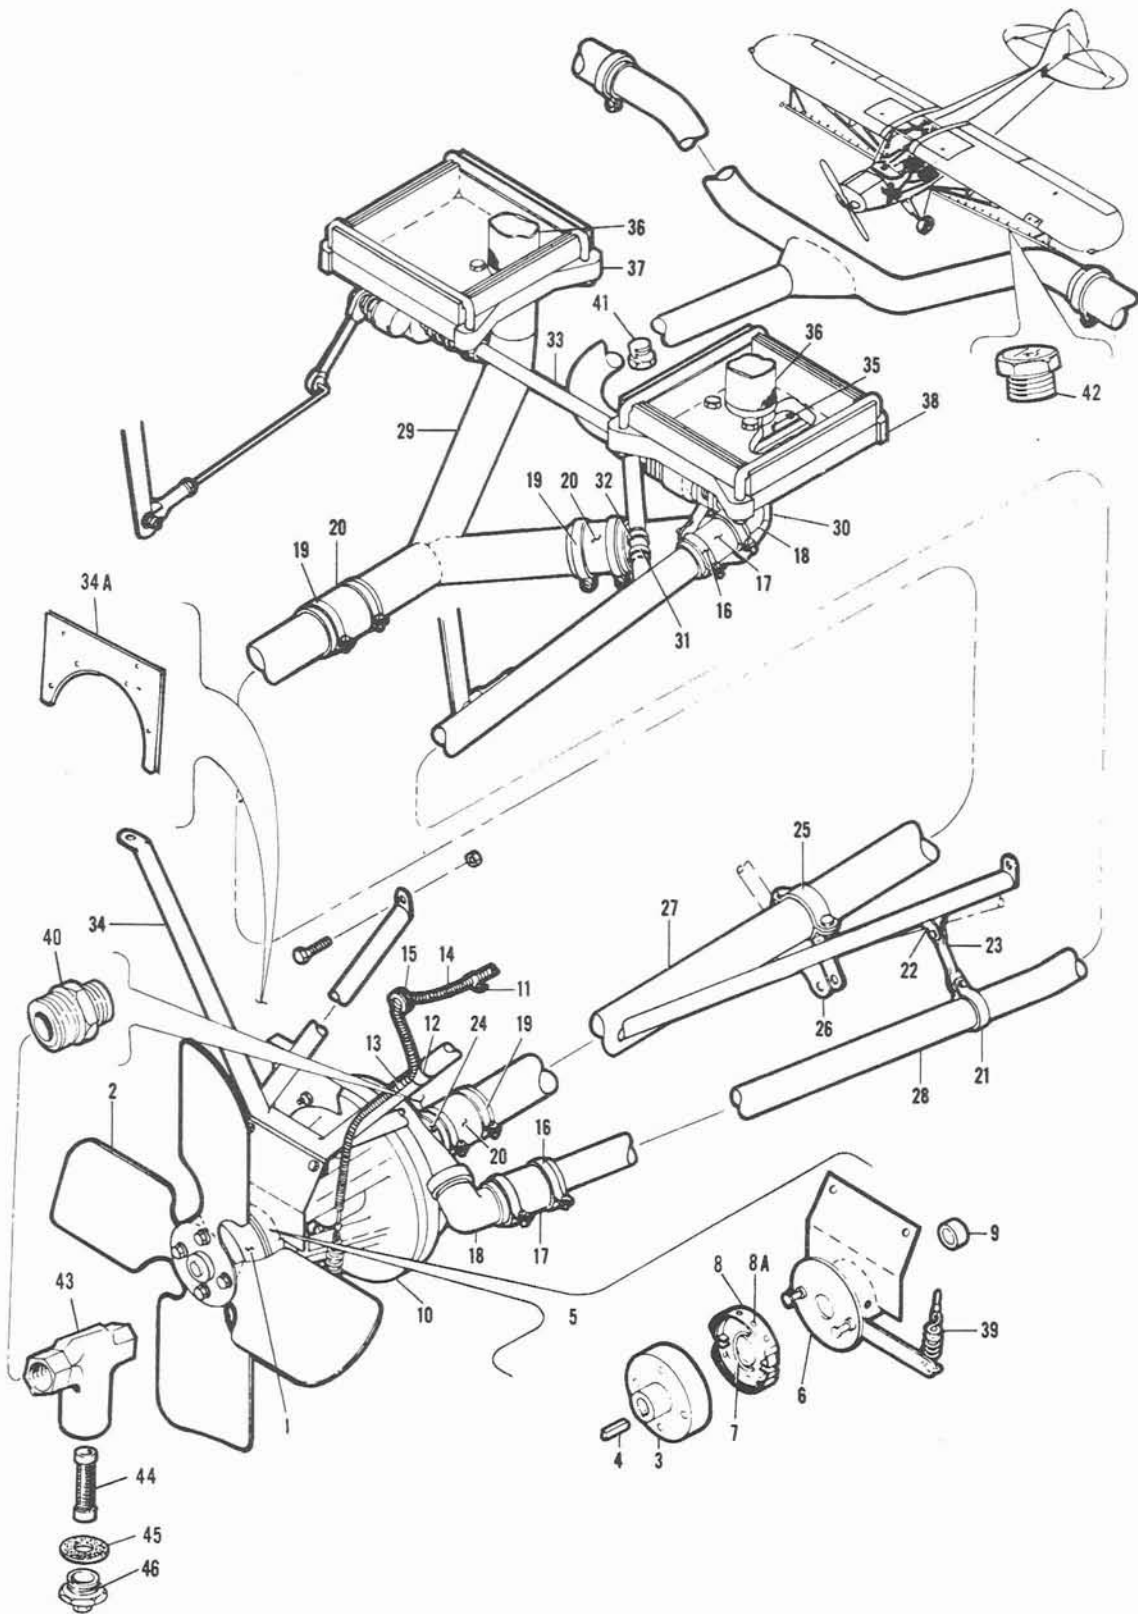

Figure 17. Fluid Spray Pump Installation
NOTE: This Sprayer Installation Group includes parts for the three (3) types of spray pumps, namely, Oberdorfer Gear Pump; 3/4" Centrifugal Simplex Pump and the 1" Centrifugal Simplex Pump (high density). The parts peculiar to each pump installation, are identified in the Code Column. Those items not coded apply to all types of spray pump installations. See Figure 17 for balance of parts applicable to the 1" Centrifugal Spray Pump Installation.